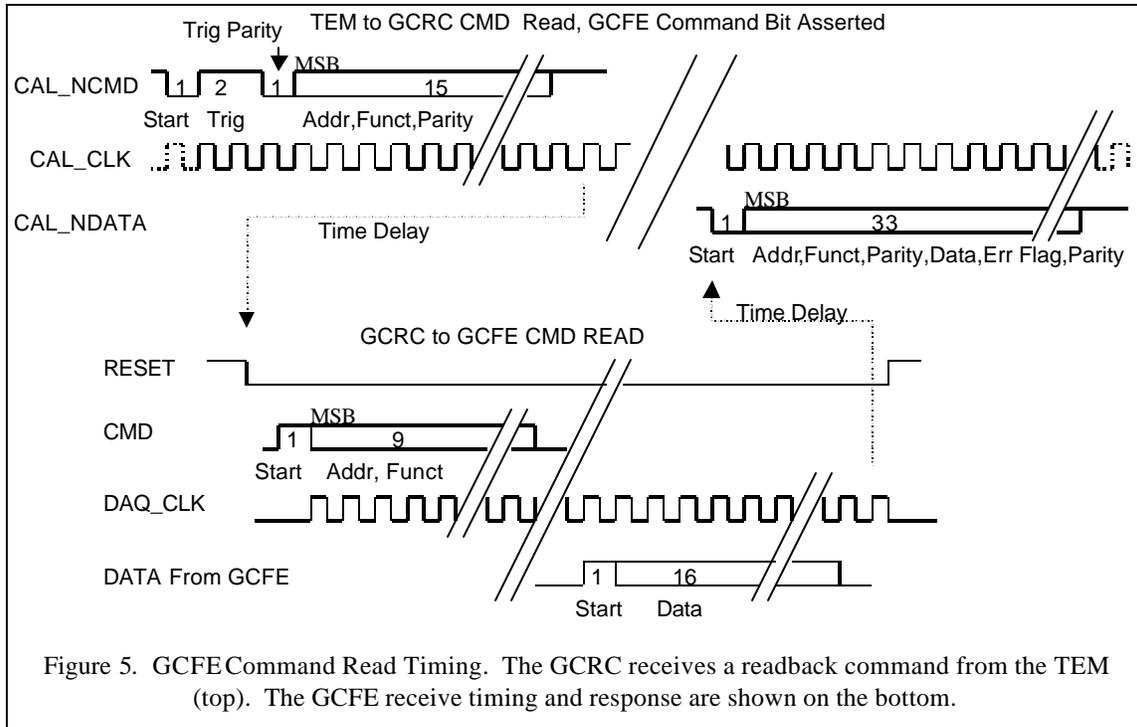

Figure 5. GCFE Command Read Timing. The GCRC receives a readback command from the TEM (top). The GCFE receive timing and response are shown on the bottom.
- Reads back configuration registers, DAC's to digital data out line. (Takes digital data output line away from the data-acquisition block during the read-back). Read back command timing is shown in Figure 5.